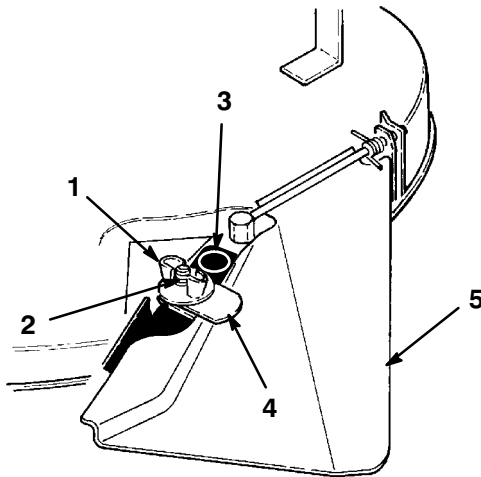

Figure 13
2. Remove the wing nut securing the discharge cover (Fig. 13) to the mower housing. **Never remove the grass deflector from the mower housing (Fig. 13).**